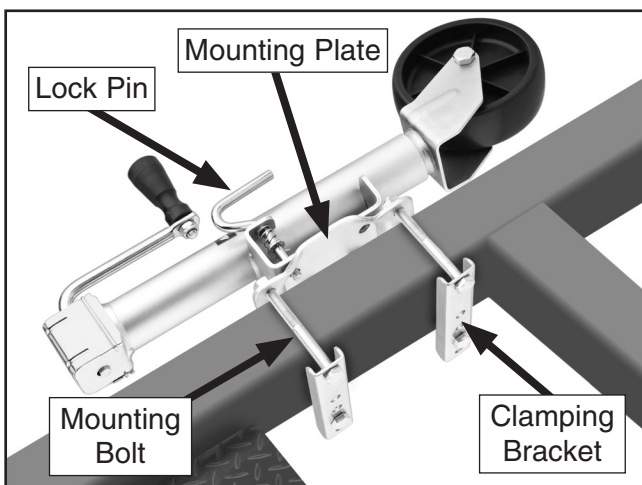

Figure 3. Typical mounting position.
4. Mount the jack in the chosen location, as shown in **Figure 3**, using the provided mounting hardware.